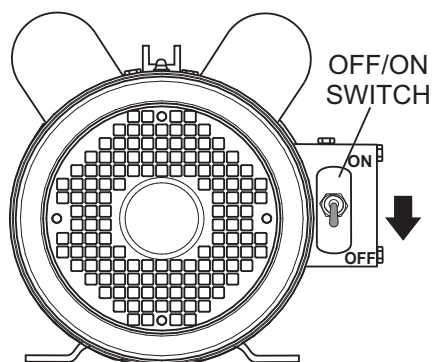

Figure 36. Electric Motor ON/OFF Switch (OFF)
1. To turn off the electric motor (Figure 36), place the ON/OFF switch in the **OFF** position.